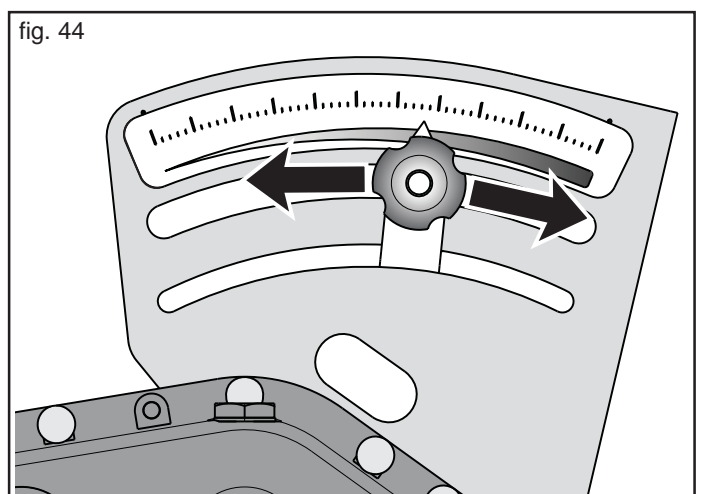

fig. 44
- 7) ... and bring the graded indicator to the required position (depending on the quantity of product to be distributed), by rotating the adjuster knob (Fig. 44).